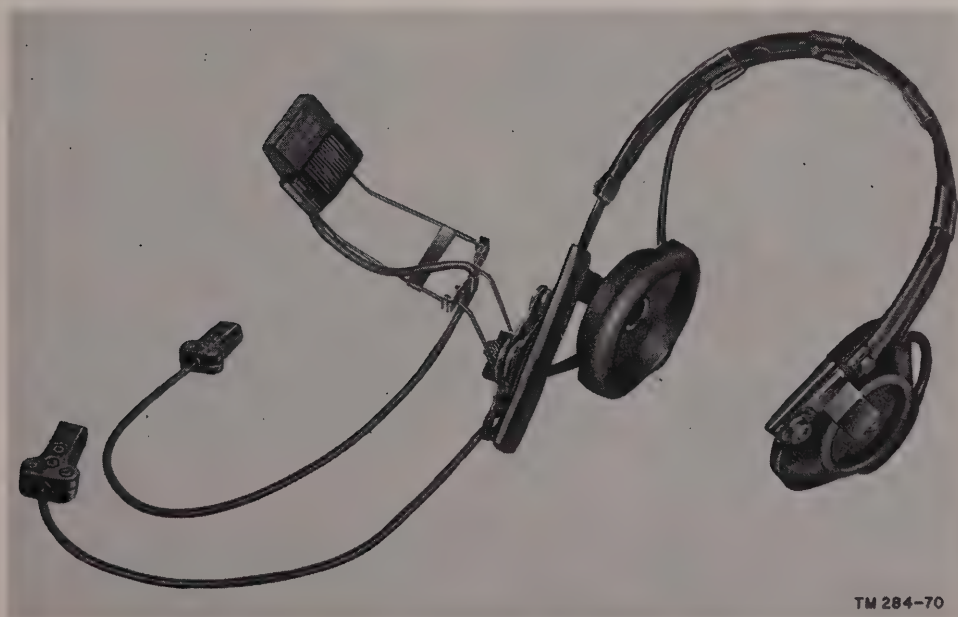

Figure 13. Headset-Microphone H-63/U.
c. *Headset-Microphone H-63/U*. Headset-Microphone H-63/U (fig. 13) consists of two series-connected 300-ohm receivers and a 100-ohm microphone. The microphone is mounted on an adjustable boom attached to the receiver headband. Two 14-inch conductors from the microphone and headset are terminated in two-pin and three-pin jacks, respectively. These jacks will mate with the plugs on Chest Set Group AN/GSA-6.